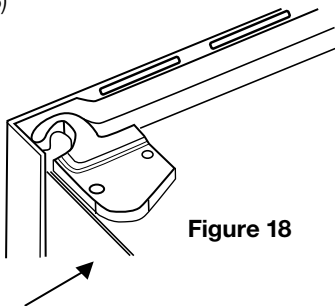

Figure 18
- Remove outer screw from top hinge cover and save for later. Remove the top hinge cover and discard. (Fig. 18)